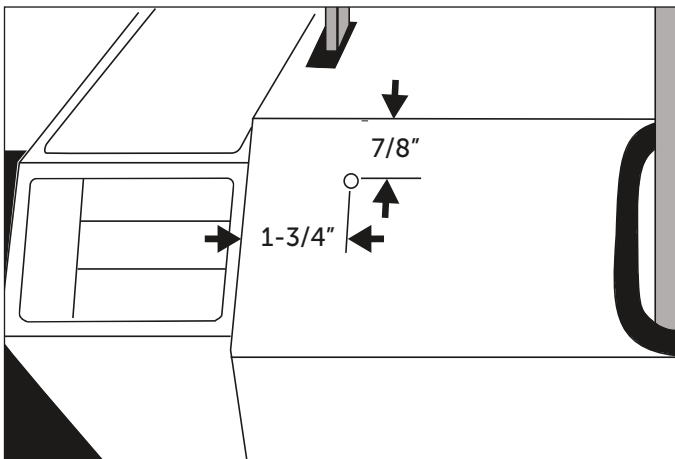

Figure 1.2
3. If a hole is not present in the location shown in figure 1.2, drill a 3/16 in. hole in the right front body to attach the cable clamp. Measure 1-3/4 in. from the edge of the body, and 7/8 in. down from the top of the body as shown in figure 1.2.